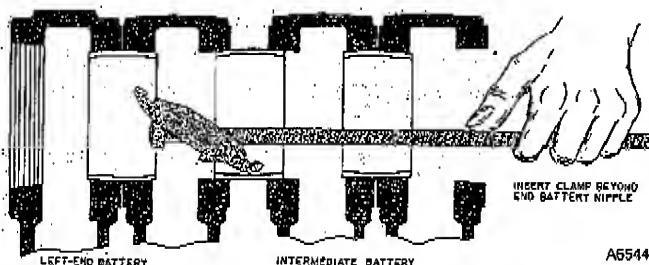

Figure 10
1. Insert one pull-up clamp and bolt through front nipple port of intermediate battery until it is beyond the nipple of left end battery. Insert second pull-up tool in rear nipple port in same manner. See Figure 10.